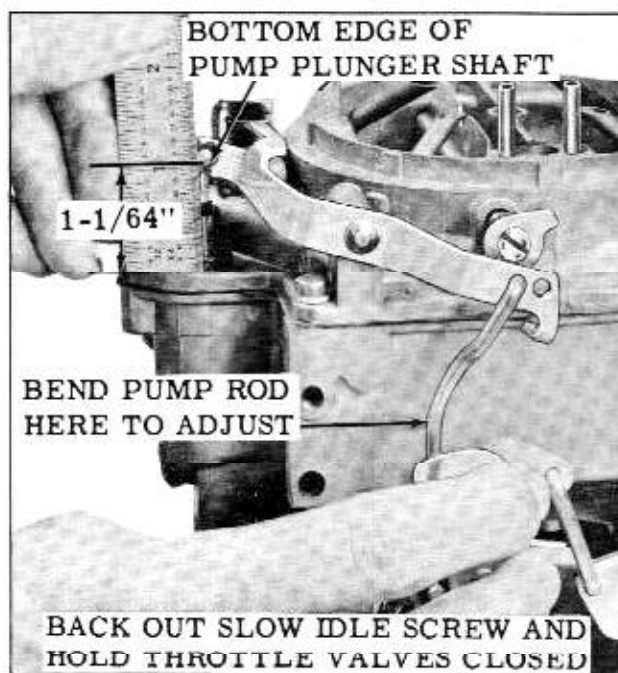

Fig. 8-129 Pump Rod Adjustment
1. While holding the throttle valves closed, idle speed screw backed out, measure the distance from the top of the air horn casting to the bottom edge of the pump plunger shaft. It should be 1-1/64". (Fig. 8-129)